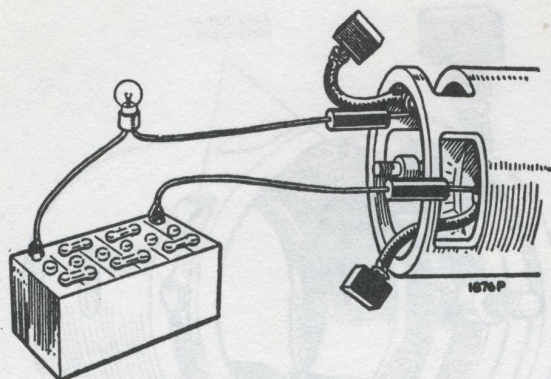

Fig. 16. Checking field coils for open circuit
1. Test the field coils for continuity by connecting a 12 volt battery with a 12 volt bulb in series between the tapping points of the field coils at which the brushes are connected. Failure of the lamp to light indicates an open circuit in the wiring of the field coils. (Fig. 16).